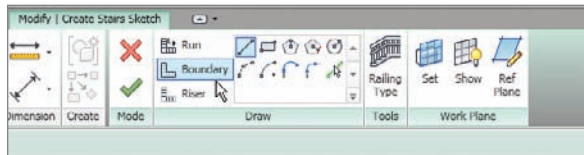

FIGURE 10.44 Click the Boundary button.
1. On the Modify | Create Stairs Sketch tab, click the Boundary button, as shown in Figure 10.44.